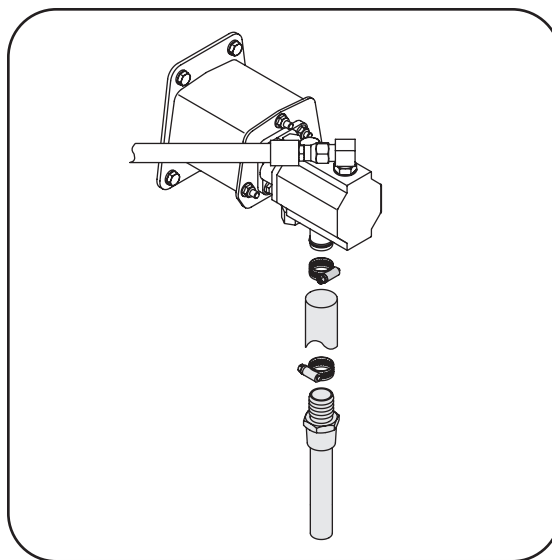

Figure 5-2
2. Carefully unthread the inlet filter and clean it with penetrating oil. See Figure 5-2.
4. Reinsert the filter and refill the reservoir with seven (7) gallons of oil. Approved fluids include Dexron® III / Mercon® III automatic transmission fluid, a 10 Weight AW hydraulic oil or Pro-Mix™ AW-32 Hydraulic Oil.